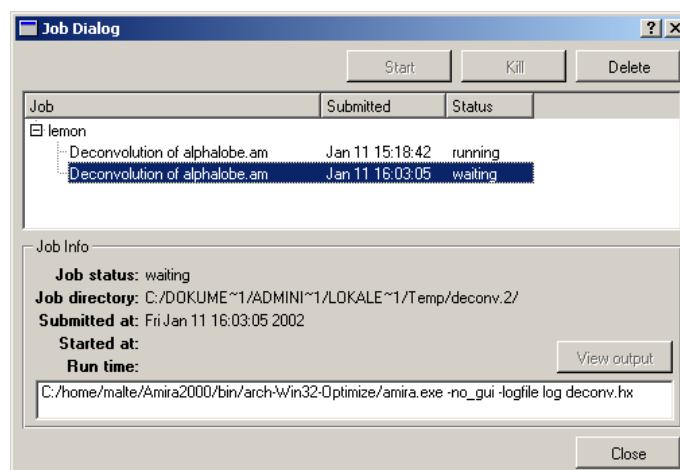

Figure 1.7: The Amira job dialog showing a pending deconvolution job.
- Press the *Submit* button of the deconvolution dialog. After a few seconds the Amira batch job dialog appears, compare Figure 1.7.